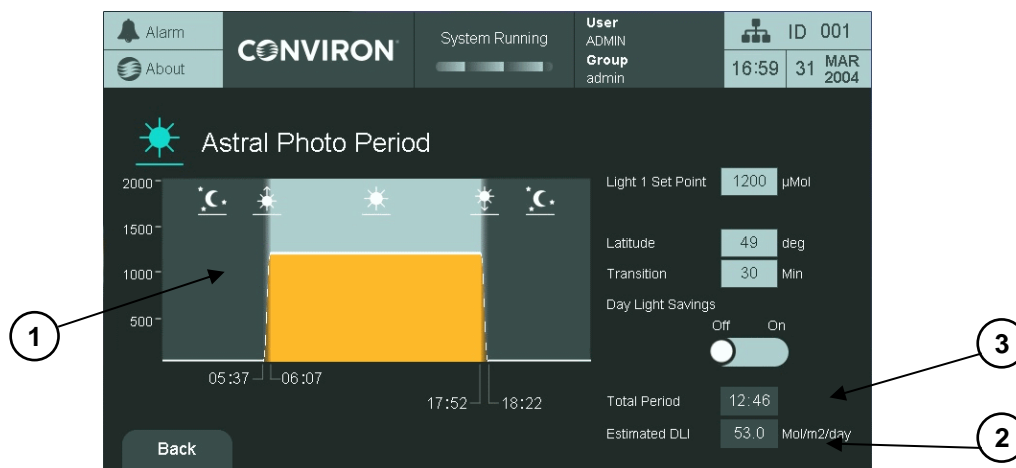

Figure 5-29 Astral Photo Period Screen
4. In the **Astral Photo Period** section, tap **Settings**. The Astral Photo Period screen appears (Figure 5-29).
8. To advance the photo period by one hour, toggle the **Day Light Savings** button to **On**. Depending on the values entered in steps 5 through to 8, the following information is displayed (Figure 5-29 and Table 5-10).